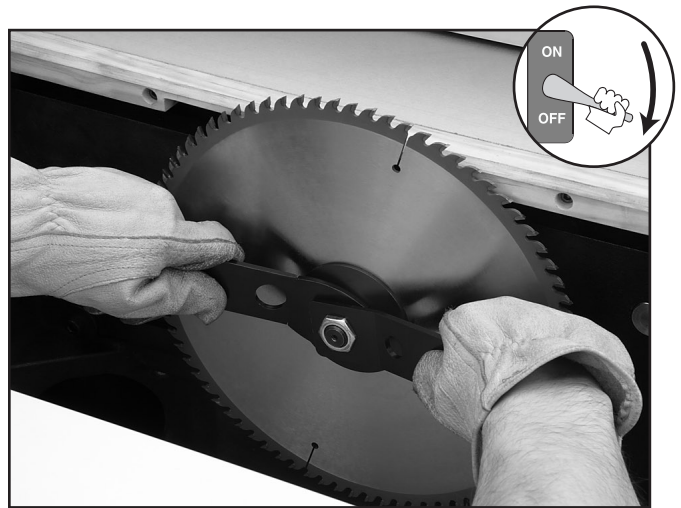

Figure 56. Replacing the main blade.
6. Slide the new blade over the arbor with the teeth facing the front of the saw as shown in **Figure 56**.
7. Re-install the arbor flange and the arbor nut and tighten them against the blade as shown in **Figure 56**.